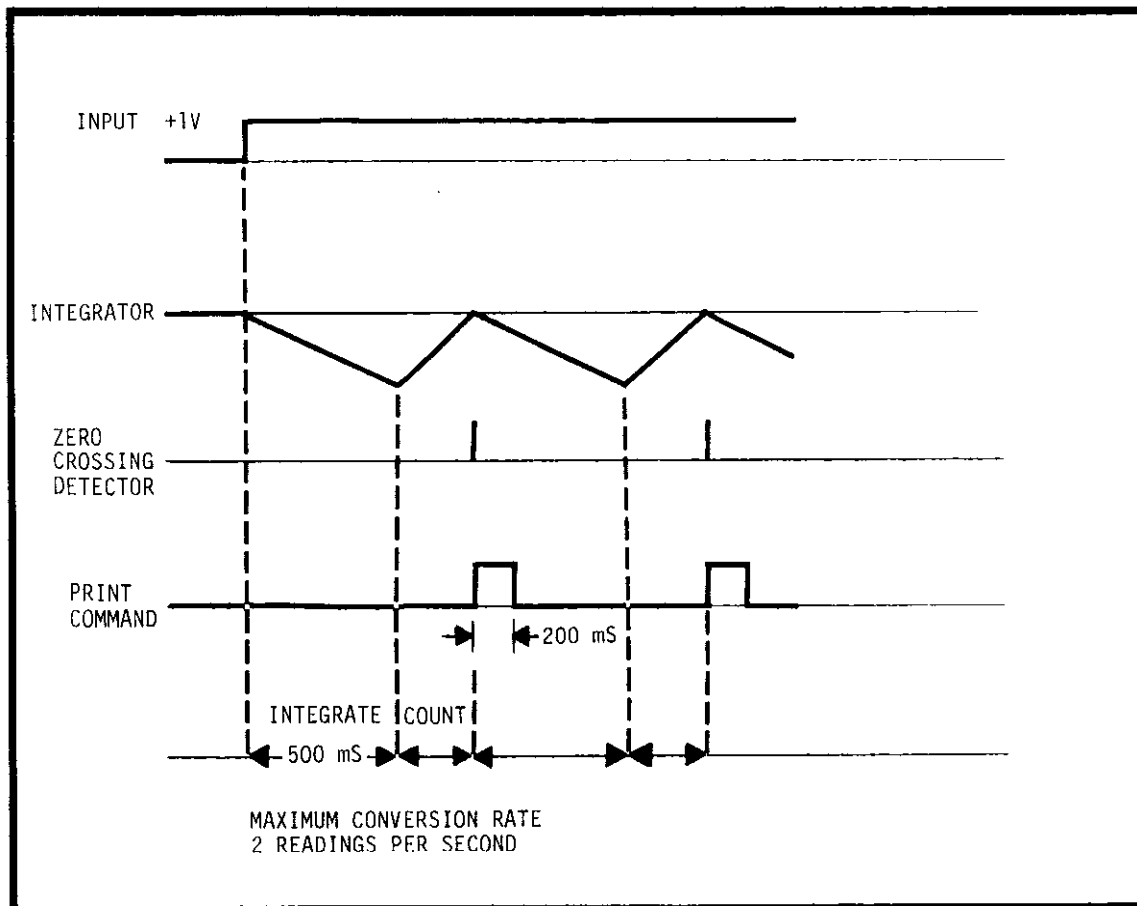

FIGURE 4. Timing Diagram.
c. Print Command. Logic "1" appears for 200 milliseconds after each display update. Refer to Figure 4 for a graphic description of the A/D converter timing.